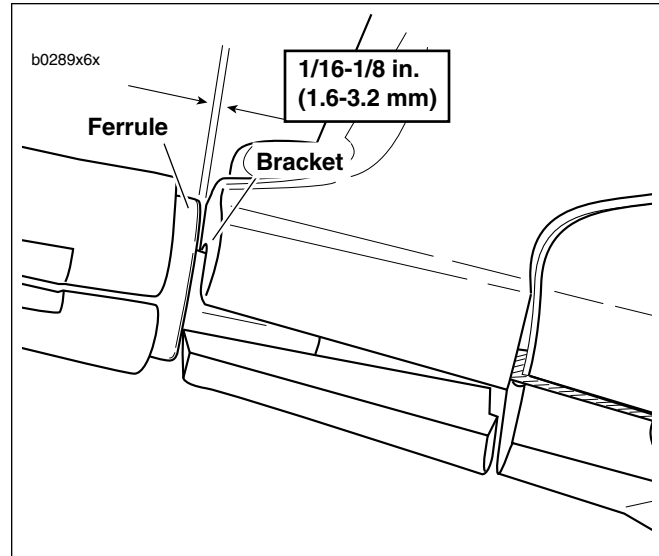

Figure 1-30. Adjusting Clutch Free Play
- a. See Figure 1-30. Pull ferrule (end of cable housing) away from bracket. Gap between ferrule and bracket should be 1/16-1/8 in. (1.6-3.2 mm).